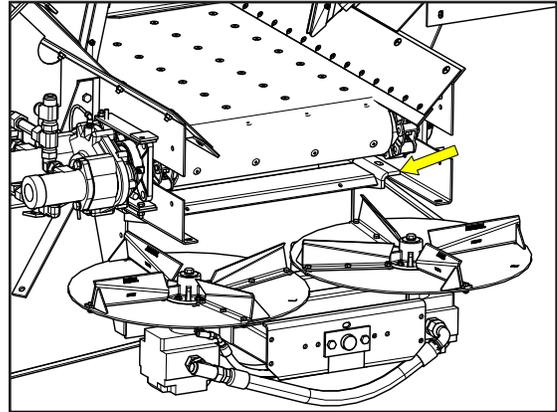

Figure 1
- Figure 1 - Begin by ensuring that the Spinner Assembly is mounted correctly. The Spinner Frame should be sitting on top of/inside the Sill flanges, NOT hanging below.